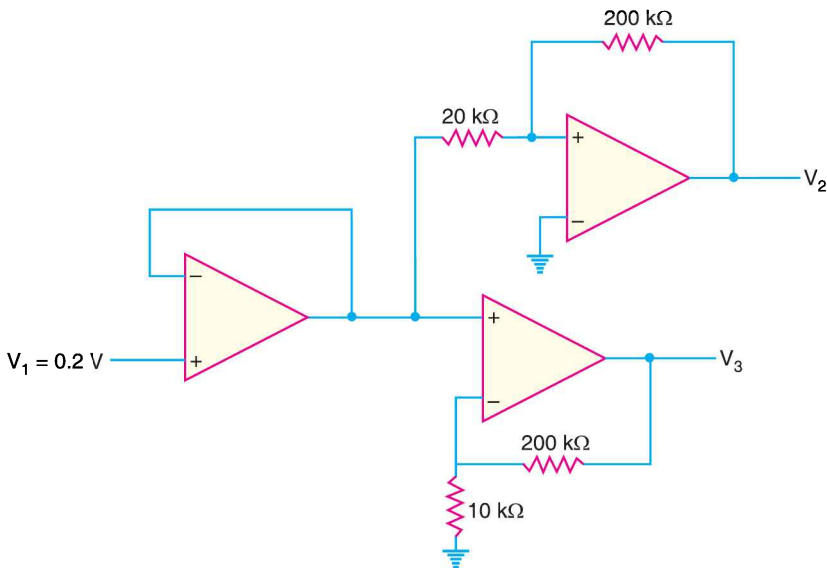

Fig. 25.108
15. Calculate the output voltages V_2 and V_3 in the circuit of Fig. 25.108. [$V_2 = -2 \text{ V}$; $V_3 = 4.2 \text{ V}$]